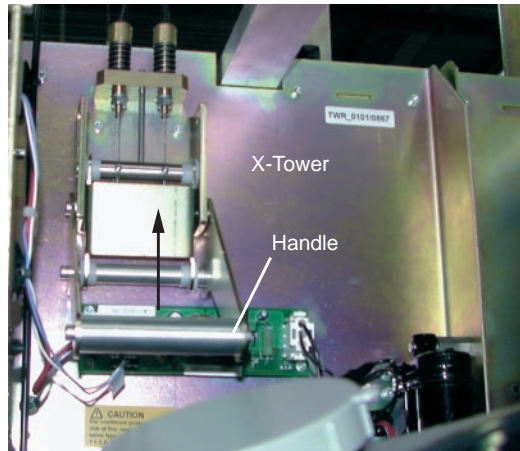

Figure 321. Unlatching the X and Y Tower
- Unlatch the X and Y towers by pulling up on the handle located on the X tower, as shown in Figure 321.